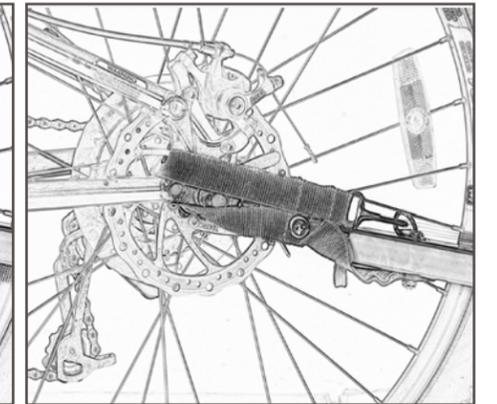

Figure 28
3. Thread the safety strap through the lower chainstay of the frame, being careful not to interfere with brakes or other moving components. Clip to D-ring on the tow arm (Fig. 28).